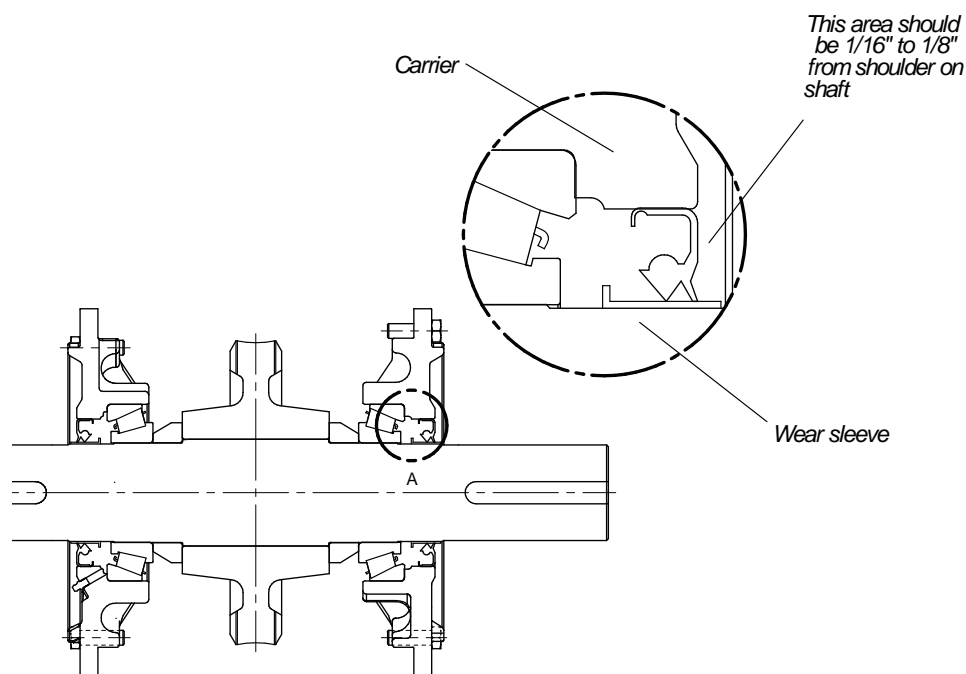

Figure 13
10. Install wear ring type oil seals. The Wear ring should be assembled onto the shaft by tapping against the flange. A piece of round tubing works well as an assembly tool. Note: Tubing must clear the sealing surface of the wear ring which will expand up to .007" when pressed onto the shaft. Tap the oil seal into the cap or carrier and thus onto the wear ring using a liberal amount of grease on the lip of the seal and the wear ring. Note: Be sure the outer lip of the seal is completely onto the sealing surface of the wear ring. See drawing, figure 13, for position of wear ring. The dimension for positioning the wear ring is indicated on the reducer assembly drawing.